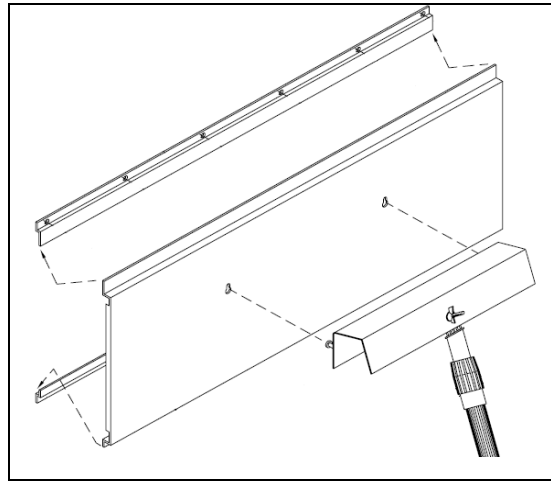

Figure 25: Changing Scoreboard Captions
2. Lift the panel all the way up into the upper retainer and then insert the bottom of the panel into the lower retainer (**Figure 25**).